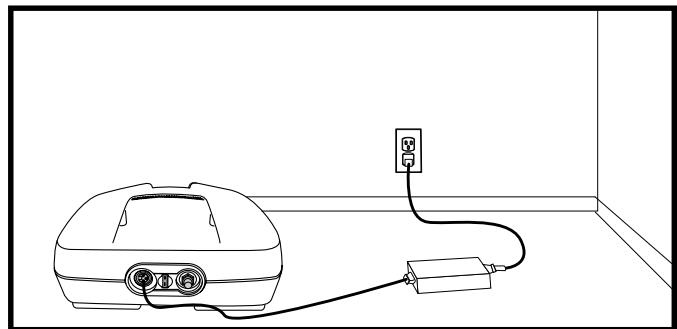

Figure 15. Charging The Batteries (Battery Pack Removed)
1. Position your Travel Scooter or battery pack close to a standard electrical outlet. See **figure 15**.